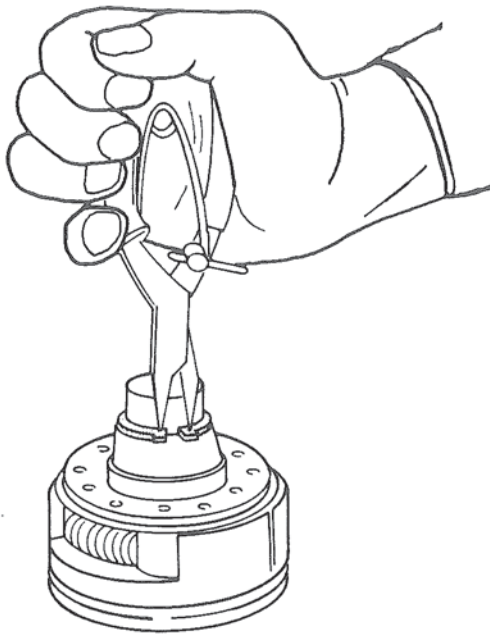

Figure 54. Removing Snap Ring.
1. Remove snap ring and plate washer/thrust washer. Figure 54.